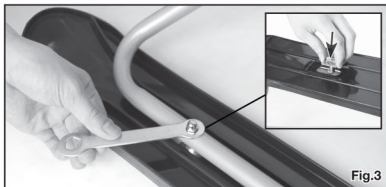

Fig.3
2. Fasten the side ski using the Side ski bolts⑫ assembly. Pass the side ski bolt from the bottom of the ski up through the frame. Then, place the locknut and tighten it securely using the Wrench⑪. (see Fig. 3)